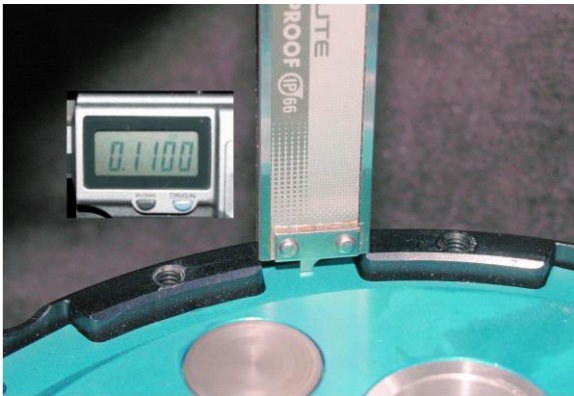
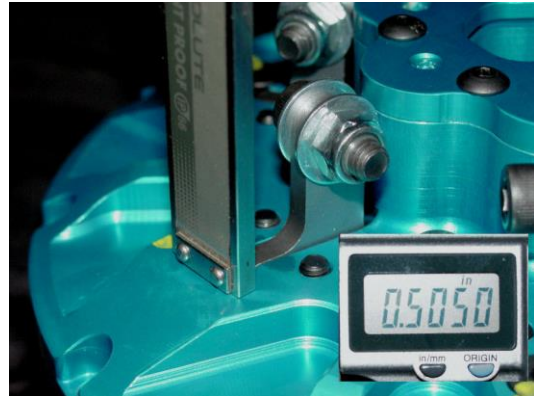

Fig. 1
Fig. 2
- E. Install the friction and metal plates the same way as with the stock procedure, start with a fiber, next a steel, then a fiber, continue until you end with a fiber. The GSXR1100 Gen II clutch has (7) steels (.0785''thick) and (8) GSXR 1000 fibers (0.111'' thick) plates. The total clutch pack should be approximately 1.438''.
- F. Insert the pressure plate on top of the last fiber. The height from the top of the tang, on the pressure plate to the top of the basket should be approximately 0.110'' (See Fig. 1). This will give you an air gap below your arms to the buttons of 0.110''.
- H. Place the hat assembly on the basket and tighten the twelve (12) allen head cap screws to secure it.
- I. The air gap between the arms and the pressure plate buttons can be measured using the thin bottom section of a caliper. Stick the caliper rod into the slot opening just behind the arm (See Fig. 2) until it hits the top of the button on the pressure plate. Take a height reading to the top of the Gen II hat, this reading should be between 0.490"-0.510". This gives an air gap of 0.100"-0.120". It is better to start with an air gap of 0.100" to compensate for clutch wear. This technique can be used to maintain the air gap, after repeated runs, without removing any part of the clutch.